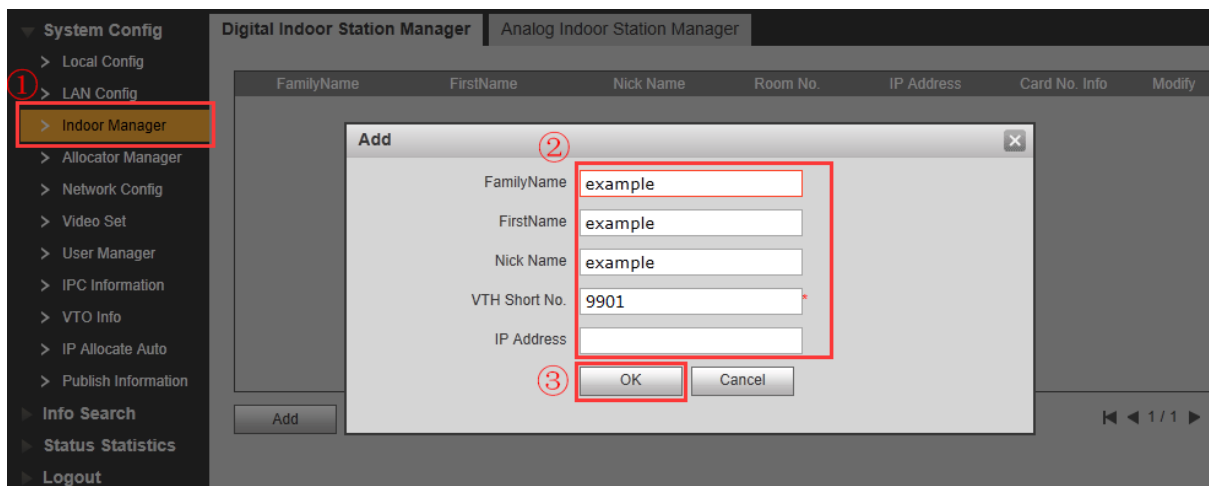

Figure 2-8
c) Now you can add digital VTH. See Figure 2-8.